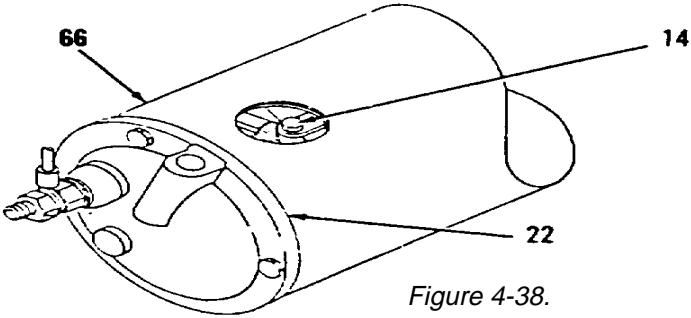
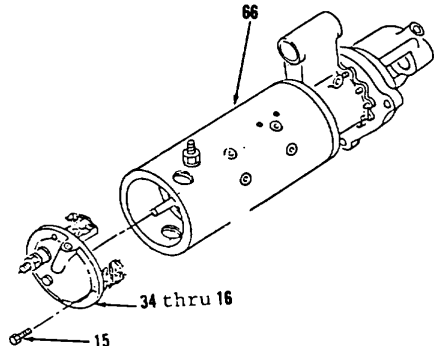

Figure 4-38.
Figure 4-39.
- 32. Pull armature (46) out of housing (66) just far enough to permit four brushes (25, Figure 4-39) to be placed over commutator.
- 33. Place four brushes (25) over commutator, aline matchmarks on end frame (22) and housing (66).
- 34. Install four bolts (15).
- 35. Install two screws (14, Figure 4-38).